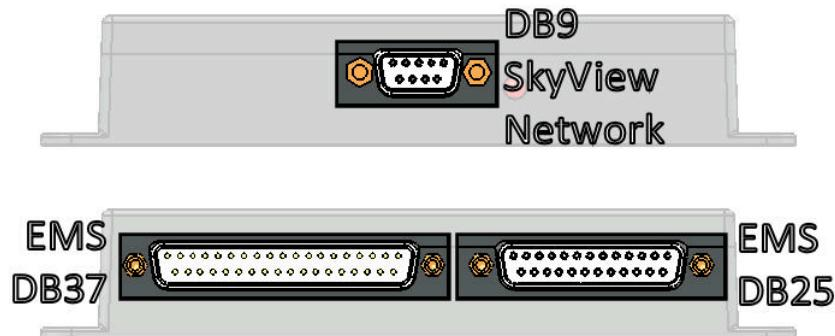

Figure 136: SV-EMS-220 Connectors
The SkyView EMS Module (SV-EMS-220) has three (3) connectors as illustrated in Figure 136:
- One (1) D9M SkyView network connector.
- One (1) D37M for various transducer connections.
- One (1) D25F for thermocouple connections.